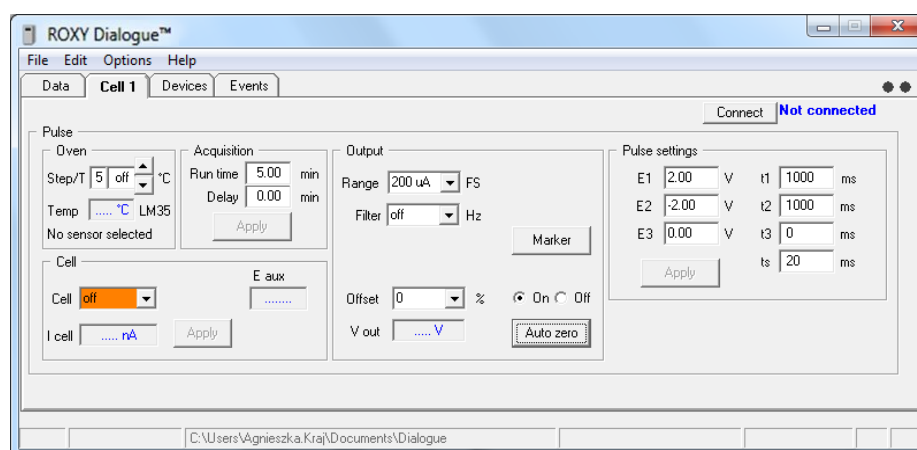

Fig. 20. The cell settings in the pulse mode for MD electrode activation.
- Go to Options pull down menu and click Start Run (Fig. 20).